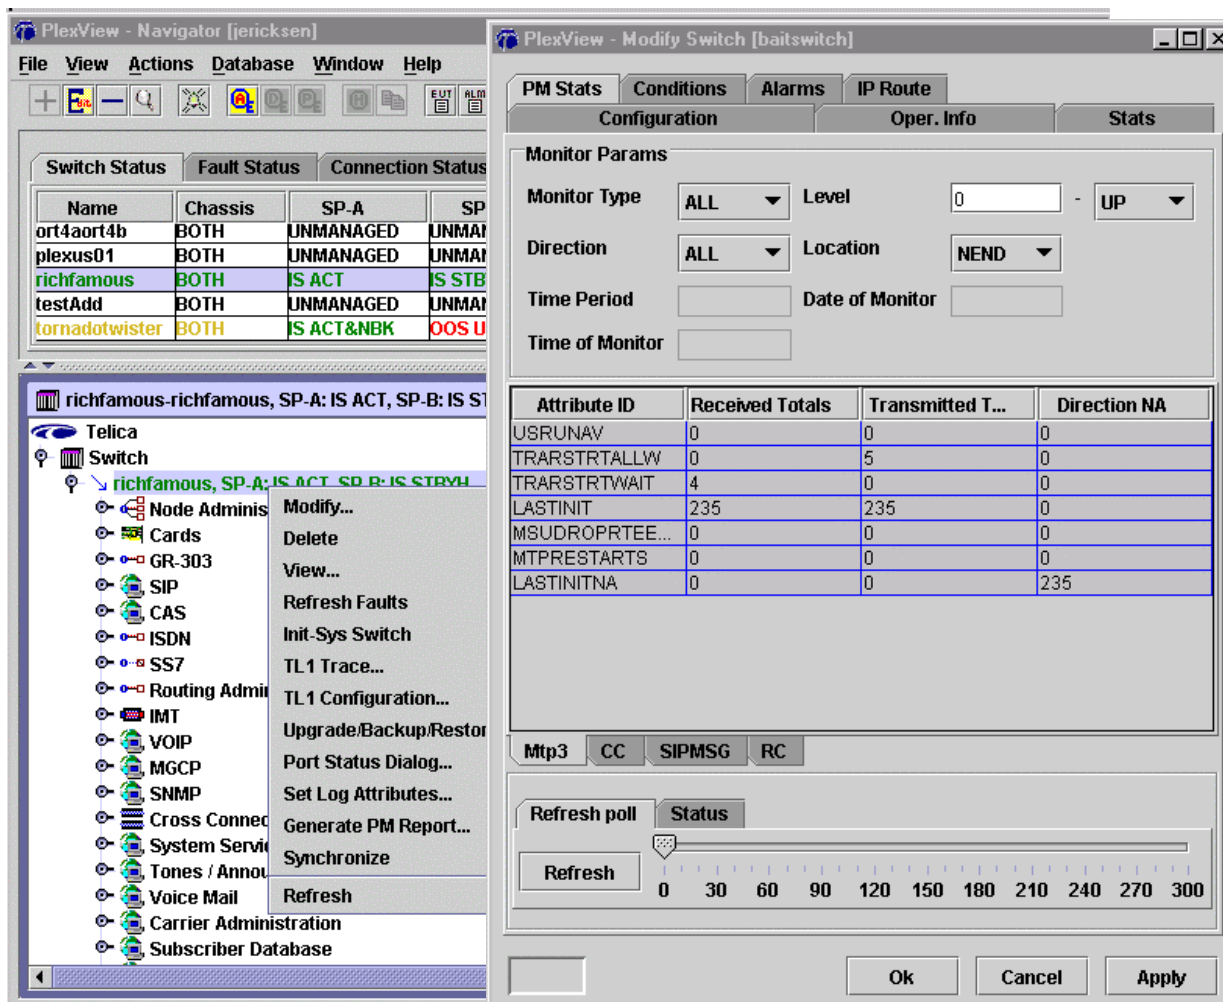

Figure 4. MPT3 PM Status
15. Retrieve current and historical performance data gathered from MTP3 signaling points. Retrieve current and historical performance data for MTP3 signaling points. Right-click the Switch, and *Modify*. Click the *PM Stats* tab and then click *Refresh* near the bottom of the panel for latest information. See Figure 4.